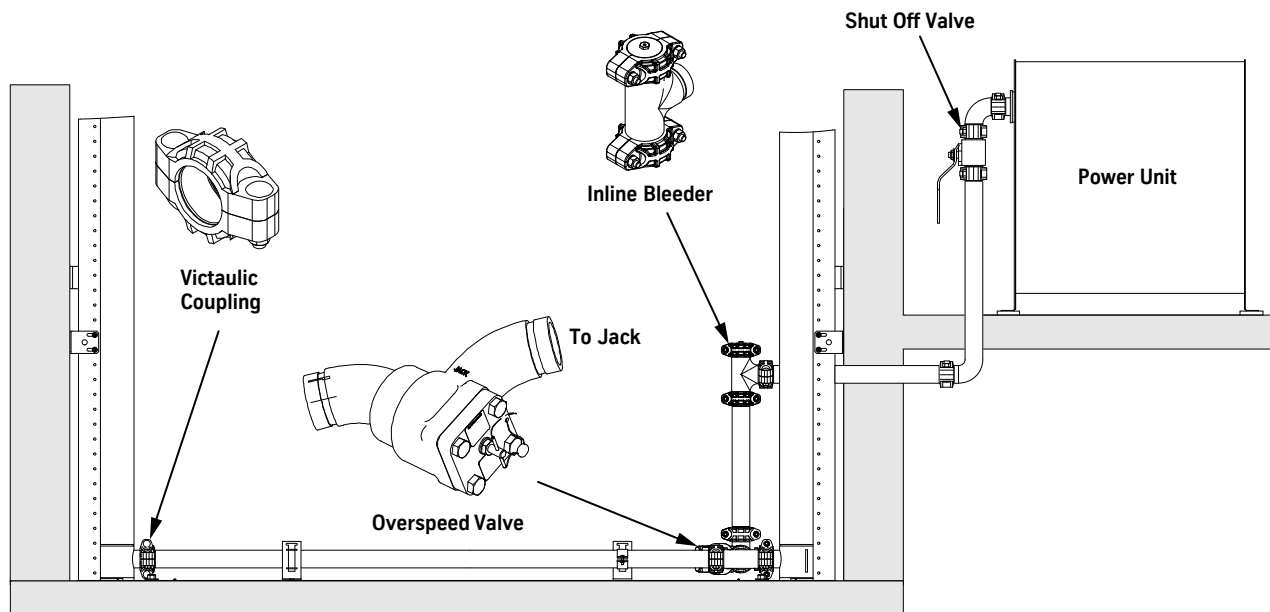

Figure 61 - Piping Installation from the Jack to the Power Unit
2. Start installation with the jack that is nearest to the oil line that enters the hoistway, and install the Victaulic tee on that jack. See Figure 62 below, and Figure 61 on page 1-91.